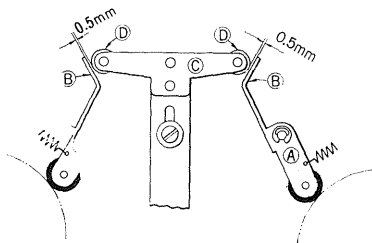

Fig. 3
6. ADJUSTMENT OF BRAKE MECHANISM (Fig. 3)